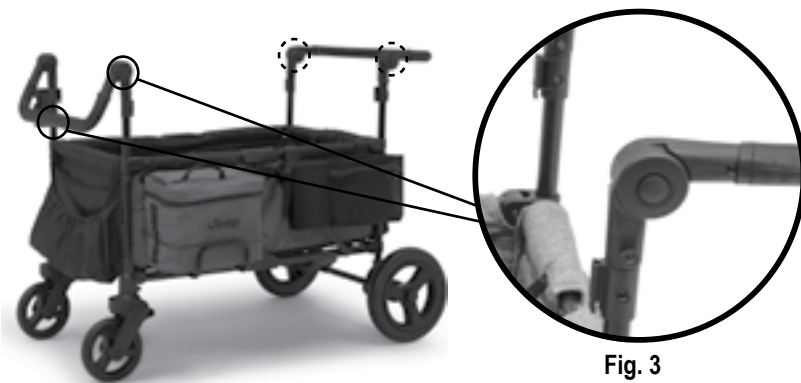

Fig. 3
- To adjust handle: Press BOTH buttons (located on either side of handle bar) (Fig. 3).